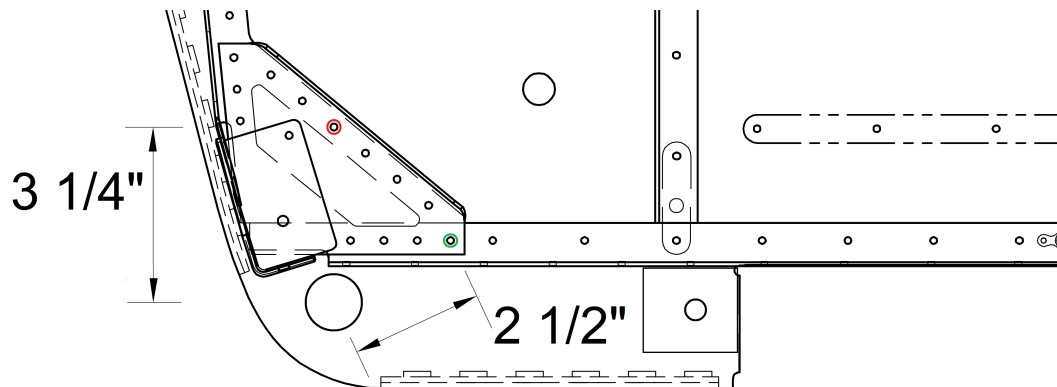

FIGURE 2: ONE-INCH DIAMETER HOLE LOCATION, FORWARD SIDE OF FIREWALL
Step 2: Drill a one-inch diameter hole in the lower outboard corners of the firewall, at the location specified in Figure 2, relative to the centers of the holes highlighted in green and red: